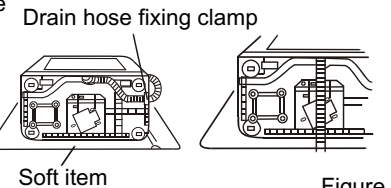

Figure 2
• Put soft items on the ground. Lean the machine down gently with the front surface facing the ground. Take off the drain hose from the cabinet. Dismantle the drain hose fixing clamp and take the hose out of the fixing groove. (See to Figure 2).